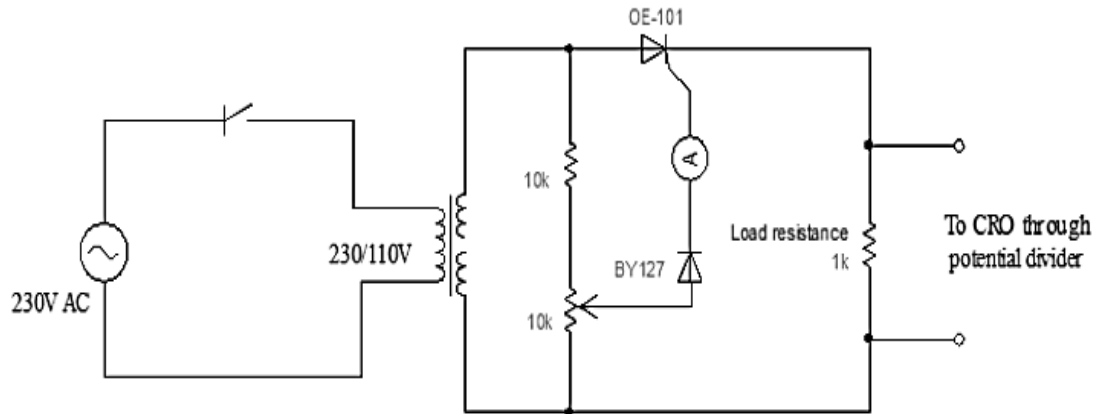

Fig 1: Power supply circuit
1. Figure 1 shows a power supply. You are required to perform the following tasks:
- TASK 1:** Install the power supply system by Mounting and soldering the components on the copper strip board as per the circuit shown in figure 1.